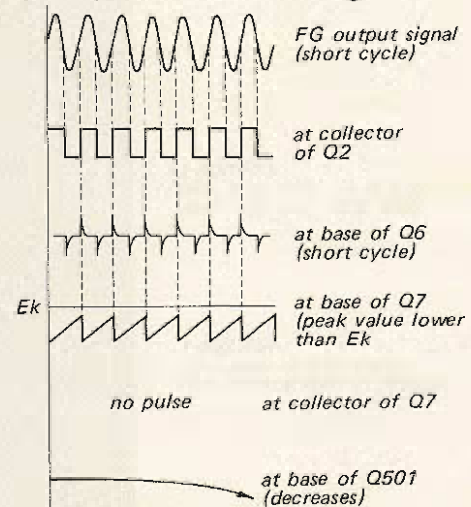

Fig. 1-5. When motor speed becomes faster
1. Motor Speed Becomes Faster (Fig. 1-5). Switching time of Q6 becomes fast as the cycle of the signal from the frequency generator is short. The collector voltage of Q6 is grounded before it becomes higher than the emitter voltage  $E_k$  (constant) because of the too short time for charging C2. The peak value of the sawtooth wave, supplied to the base of Q7, is lower than  $E_k$ . Thus Q7 is cut off, and the base voltage of Q501 is lowered as the pulse is not supplied to the base of Q9.